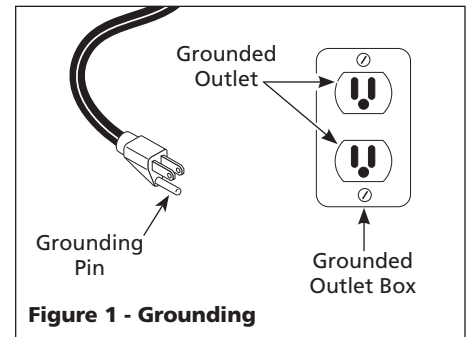

Figure 1 - Grounding
- This product is for use on a nominal 120V circuit and has a grounding plug similar to the plug illustrated in Figure 1. Only connect the product to an outlet having the same configuration as the plug. Do not use an adapter with this product.